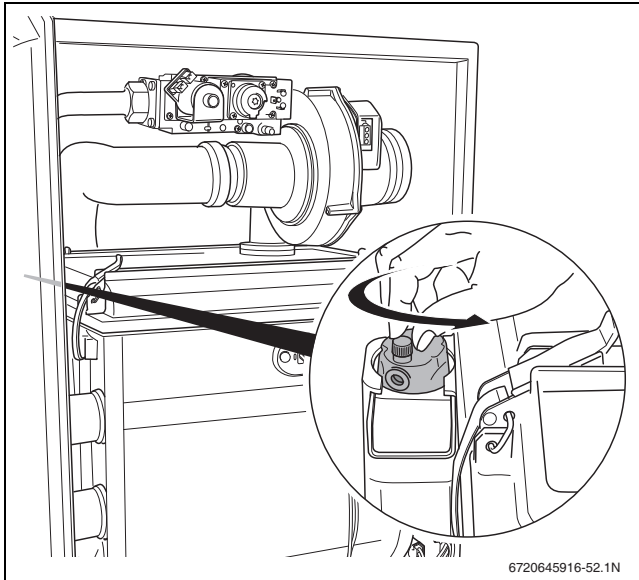

Fig. 55 Opening the automatic air vent
- Loosen the cap of the automatic air vent (→ fig. 55) by turning $\frac{1}{4}$ rotation counterclockwise.